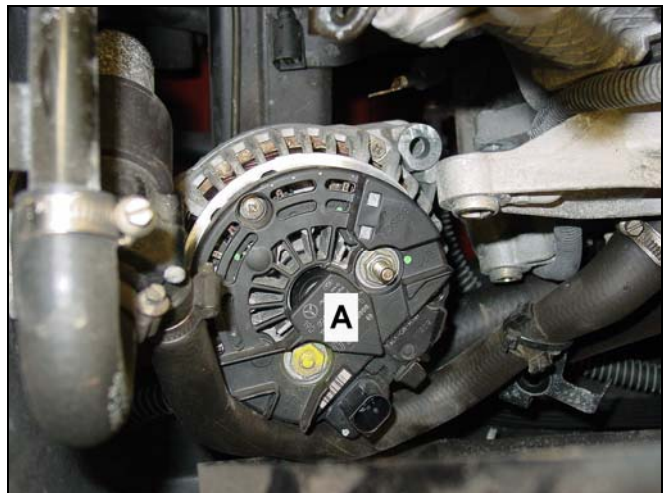

Figure 6
- Position alternator (A, Figure 6) with regulator facing up and pulley facing down.